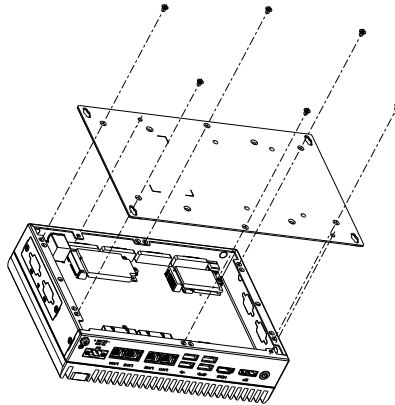

Figure 3-1-1
1. Remove six M3x4 screws from bottom cover, as shown in Figure 3-1-1.